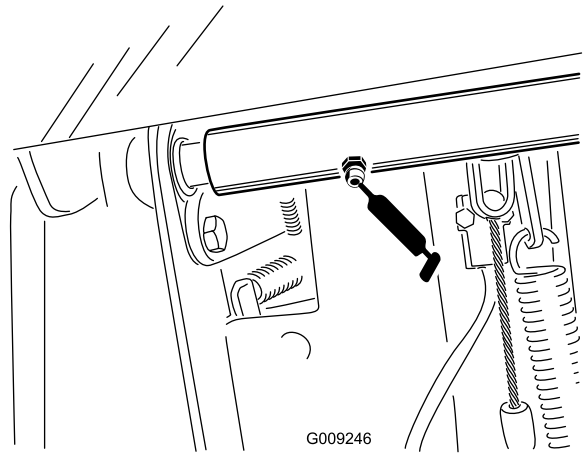

Figure 51
- 1 brake-shaft-pivot bearing (Figure 51)